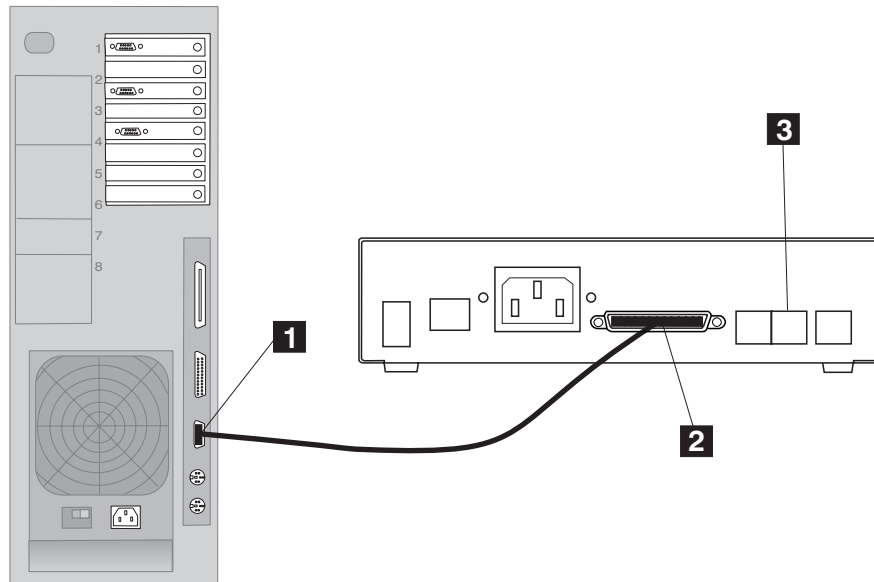

Figure 1-70. Connecting the Service Processor (9585) from COM1 to the 7858
- **9585**, refer to Figure 1-70 on page 1-62